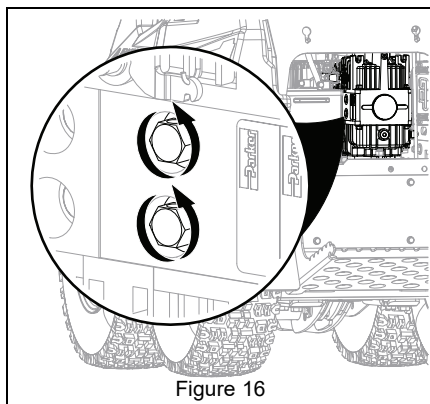

Figure 16
2. Turn both bypass valves two complete turns counter-clockwise to the bypass position. DO NOT remove the bypass valves. See Figure 16.